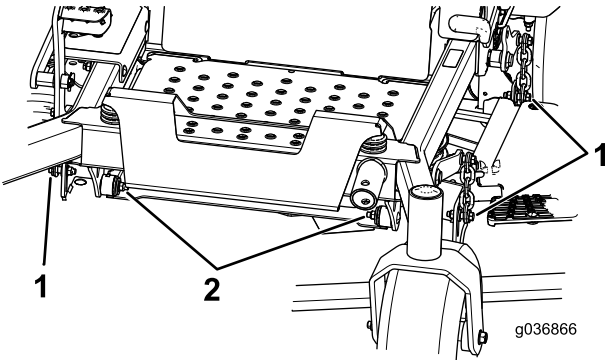

Figure 124
- 7. Remove and retain the bolts and nuts on both sides of the machine (Figure 124).